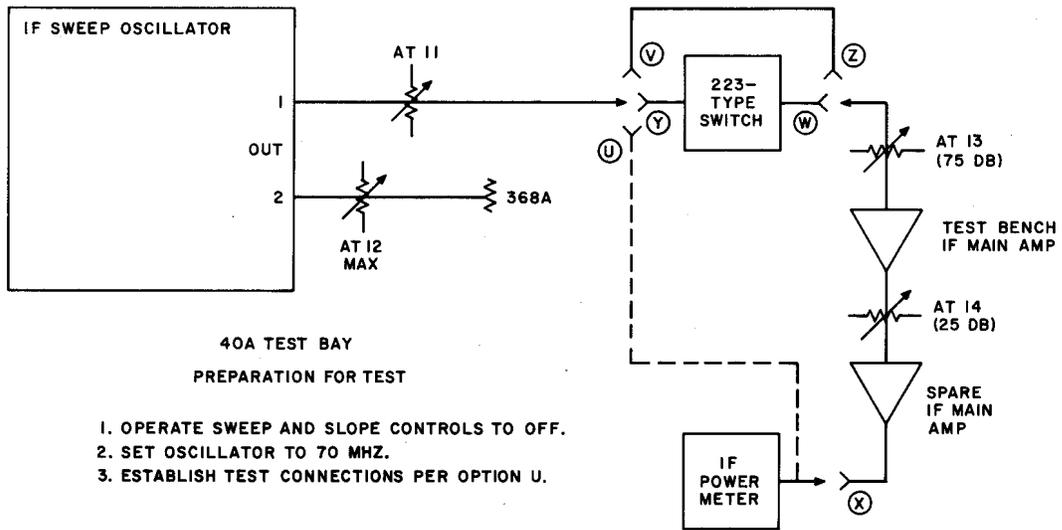

Fig. 14—Arrangement for Crosstalk Test Using 40A Test Bay
- (a) Establish the circuit of Fig. 14 or 15, option U.
40A TEST BAY (Fig. 14)